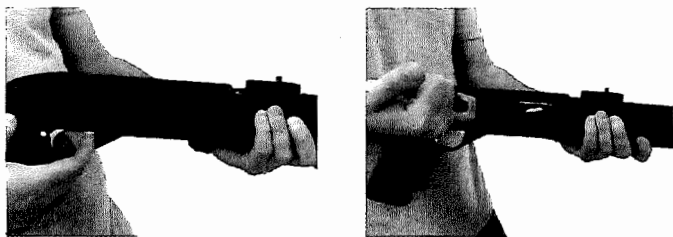

Fig. 27
5. Bring the bolt to rearward position by pushing the cartridge drop lever. (Fig. 27)